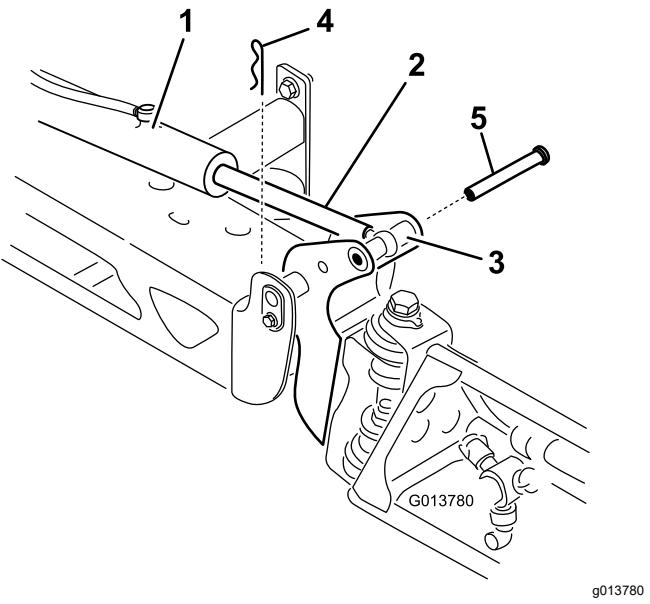

Figure 150
2. Remove the cotter pin from the pivot pin (Figure 150).
3. Lift up on the boom and remove the pin (Figure 150), and slowly lower the boom to the ground.
9. While holding the boom, insert the pin through both boom pivot and rod end (Figure 150).